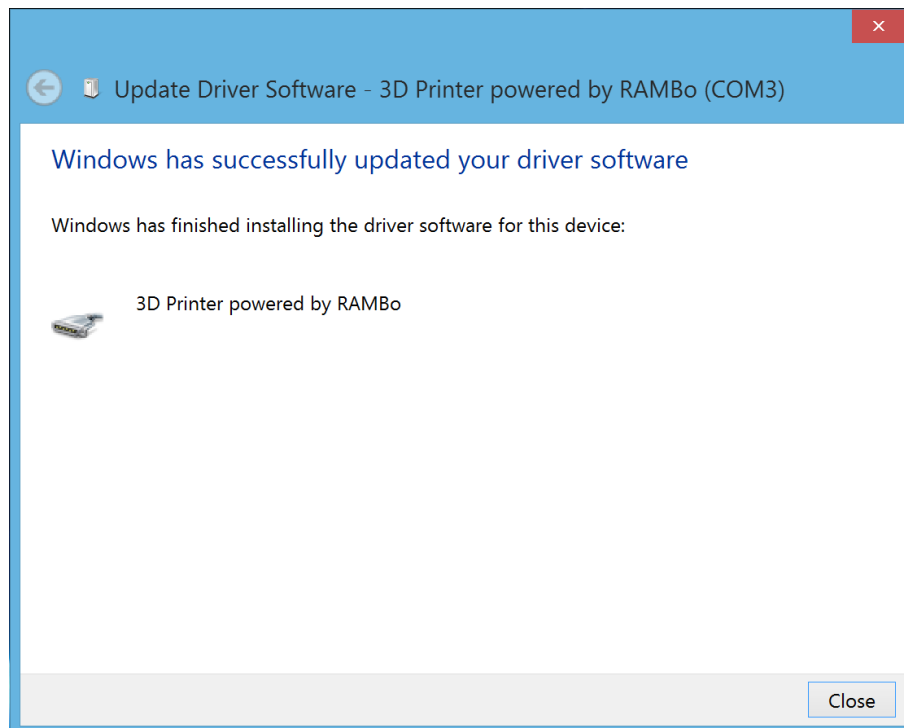

Figure 2.6: Installation completed successfully
8. After the installation, you will be noticed that "Windows has successfully updated your driver software". Click "Close". (Figure 2.6)